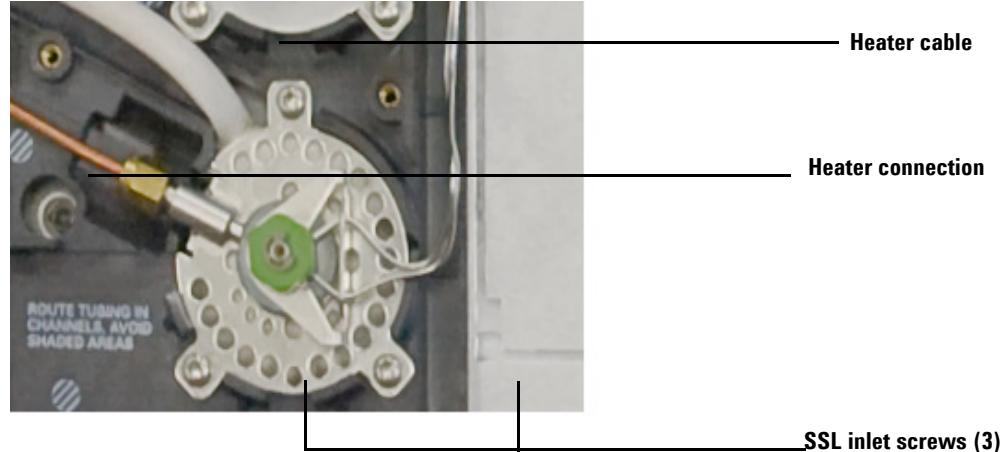

Figure 7 SSL inlet installed
- 4 To secure the SSL inlet to the GC chassis, start each screw one at a time to ensure the inlet is aligned and screws are properly threaded. Then tighten each screw in turn evenly until snug. See Figure 7.